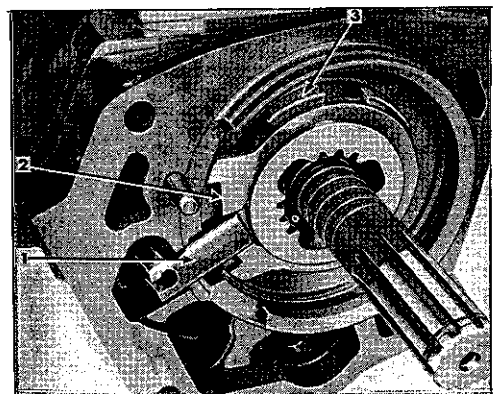

FIG. 220—SOLENOID BALK RING
a. The sun gear balk ring, Fig. 220, must have from  $3\frac{1}{2}$  to  $5\frac{1}{2}$  lbs. [1,58 a 2,49 kg.] running friction (measured on a  $1\frac{5}{8}$ " [16,8 mm.] radius) when mounted on the sun gear plate hub. Replace any parts necessary to obtain this friction. This friction acts as a brake to allow the solenoid panel to engage without gear noise. In the absence of
b. Install the balk ring as shown in Fig. 220. Place the wider flat edge of the ring (Fig. 220, No. 2) toward the top of the transmission which places the inner beveled edge toward the gear plate (3).
c. Install the sun gear pawl (Fig. 220, No. 1) with its grooved edge toward the top of the transmission.